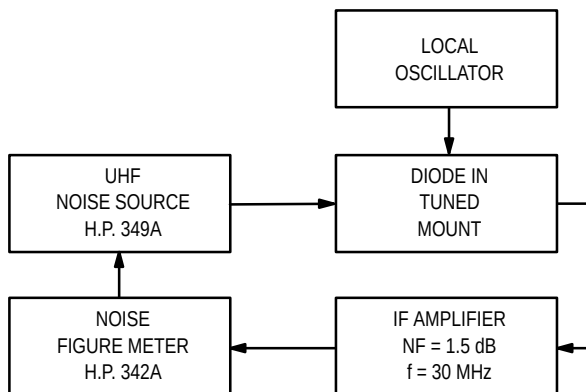

Figure 5. Noise Figure Test Circuit
Note 2—Noise figure measured with diode under test in tuned diode mount using UHF noise source and local oscillator (LO) frequency of 1.0 GHz. The LO power is adjusted for 1.0 mW. IF amplifier NF = 1.5 dB, $f = 30$ MHz, see Figure 5.